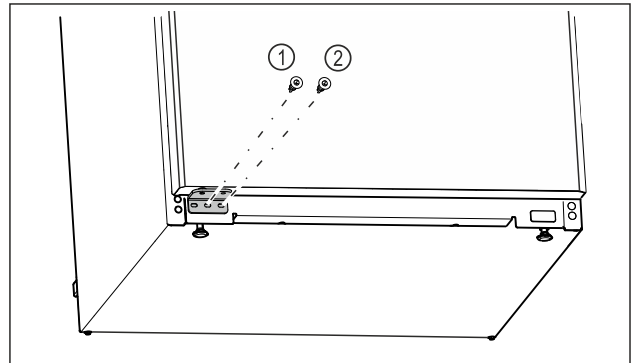

Fig. 21
- Tighten the middle screw of the swap bearing block Fig. 21 (1) with a Torx 20 screwdriver.
- Tighten the inner screw of the swap bearing block Fig. 21 (2) with a Torx 20 screwdriver.